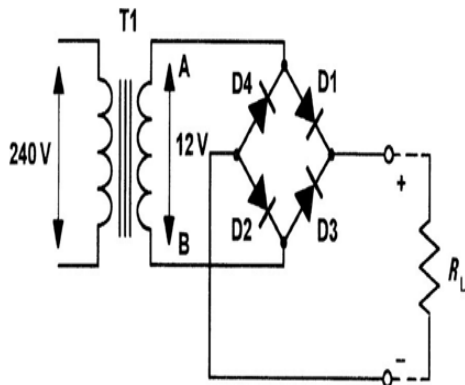

Fig. 1.9: Full wave Bridge Rectifier Circuit
- A full-wave bridge rectifier arrangement is shown in Fig. 1.9.